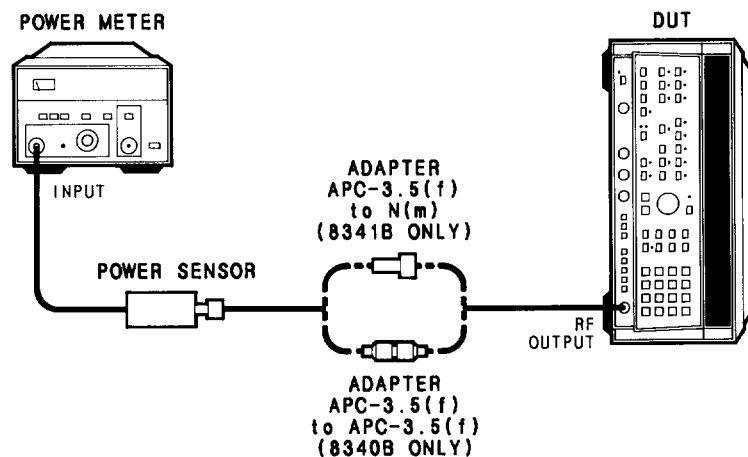

Figure 5-47. ALC Adjustment Test Setup
15. Connect the equipment as shown in Figure 5-47. Calibrate and zero the power meter. Allow one hour warmup time. Connect the power sensor to the DUT's RF output. Press **[INSTR PRESET]** on the DUT. Press **[CW]** and enter **[4] [.] [5] [GHz]**. Press the **[RF]** key to turn the RF OFF and zero the power meter. To ensure that the power meter is properly zeroed, select "WATT" mode, and press ZERO until the power meter indicates ≤ 0.02 on the most sensitive range. Press **[RF]** to turn the RF ON. Press **[PEAK]** to turn peaking on. Press **[SHIFT] [PWR SWP]** to decouple the RF attenuator and ALC. Enter **[0] [dBm]**. If the display does not indicate ATTEN=0 dB, press STEP keys as necessary to select 0 dB attenuation.